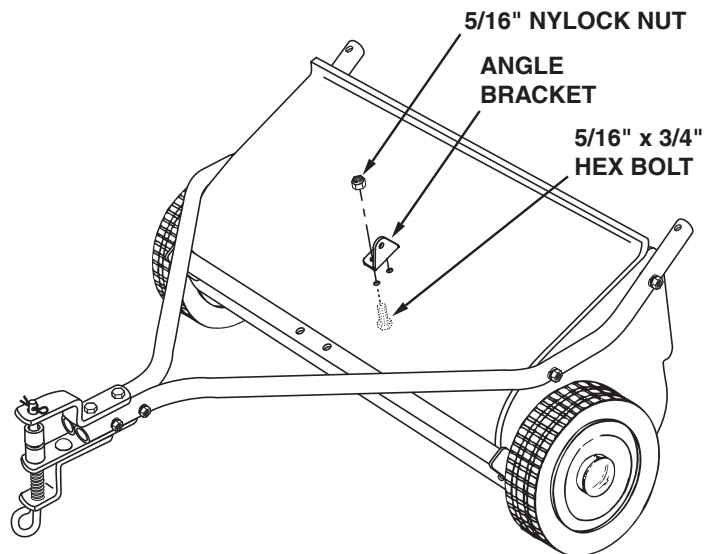

FIGURE 6
15. Assemble the angle bracket to the sweeper housing using two 5/16" x 3/4" hex bolts and 5/16" nylock nuts. The upright portion of the angle bracket should face toward the left side of the sweeper. See figure 6.